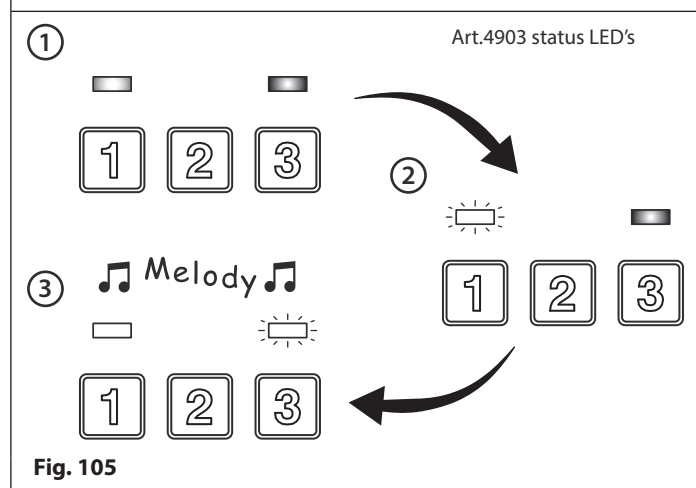

Fig. 105
2. Both the LED's on the keypad will switch **ON** (**Fig.105, ①**). The green data LED will then switch **OFF** (**Fig.105, ②**), followed by the red status LED and the codelock will play a melody (**Fig.105, ③**);